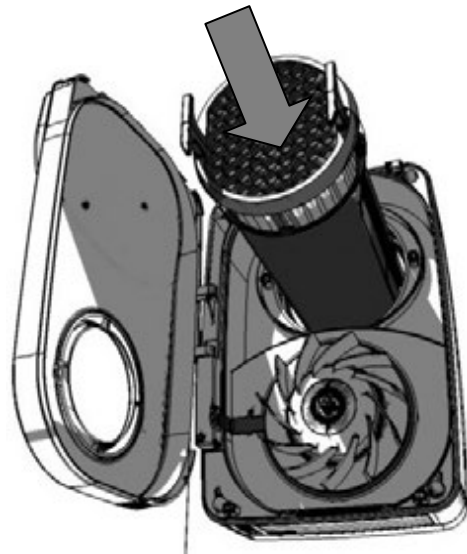

Fig.11
9) Insert Heat Exchanger through Chassis and into Wall pipe Fig 11.